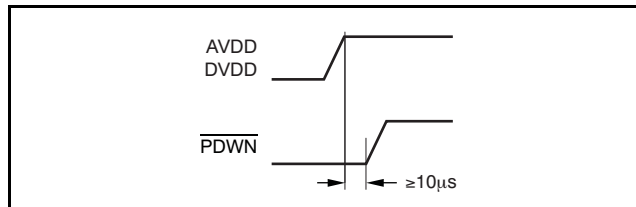
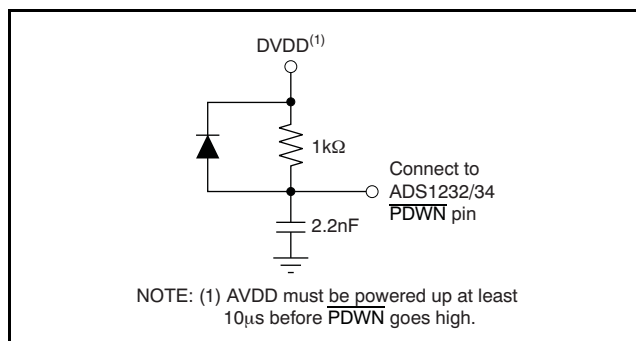

Figure 39. Power-Up Timing Sequence
Figure 40. RC Delay Circuit
When powering up the ADS1232/34, AVDD and DVDD must be powered up before the PDWN pin goes high, as shown in Figure 39. If PDWN is not controlled by a microprocessor, a simple RC delay circuit must be implemented, as shown in Figure 40.
- Added *Power-Up Sequence* section, with new text and two new figures (Figure 39 and Figure 40). 23